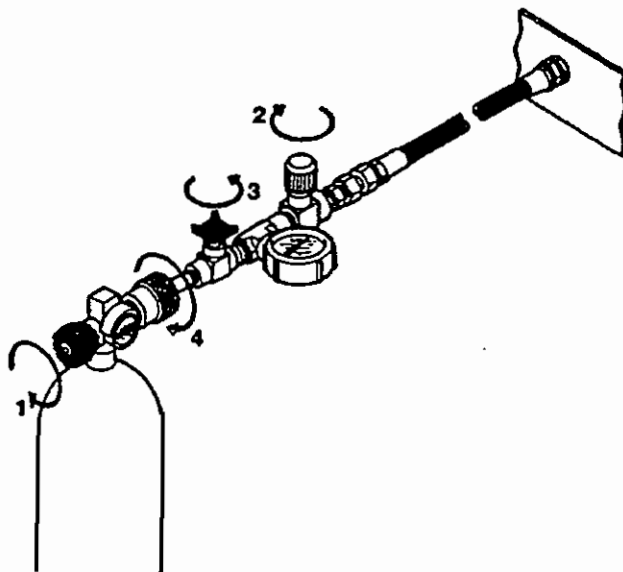

Fig. 17.3 Removing the air bottle
After reaching the final bottle pressure, turn off the compressor unit. Close the bottle valve (1) and then close the filling valve (2). See fig. 17.3.